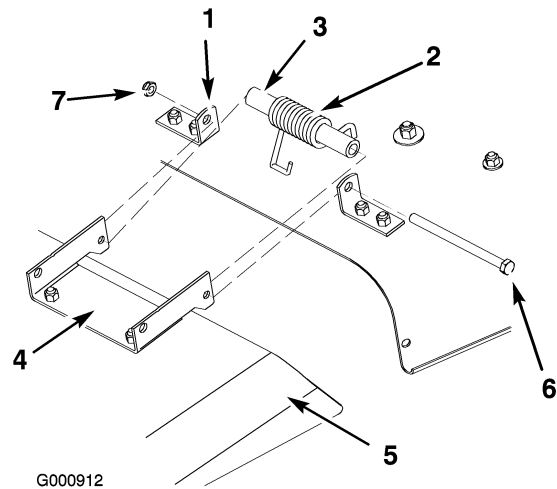

Figure 51
1. Remove the locknut, bolt, and spring holding the deflector to the mower brackets (Figure 51). Remove the damaged or worn grass deflector.
2. Place the springs into the brackets on the mower with the hooked ends over the raised back (Figure 51).
3. Align the grass deflector with the holes in the brackets and the spring straight ends in the space under the hinge and above the deflector (Figure 51).